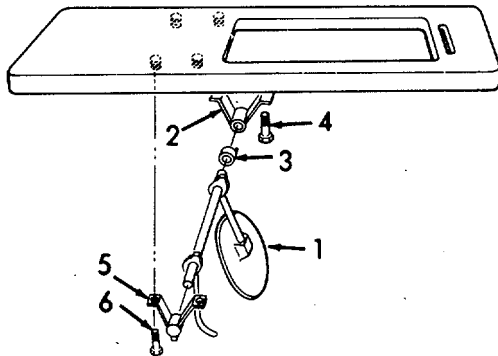

Figure 5-24. Knee Lifter Assembly, Installation.
- f. *Installation.* (Refer to Figure 5-24).